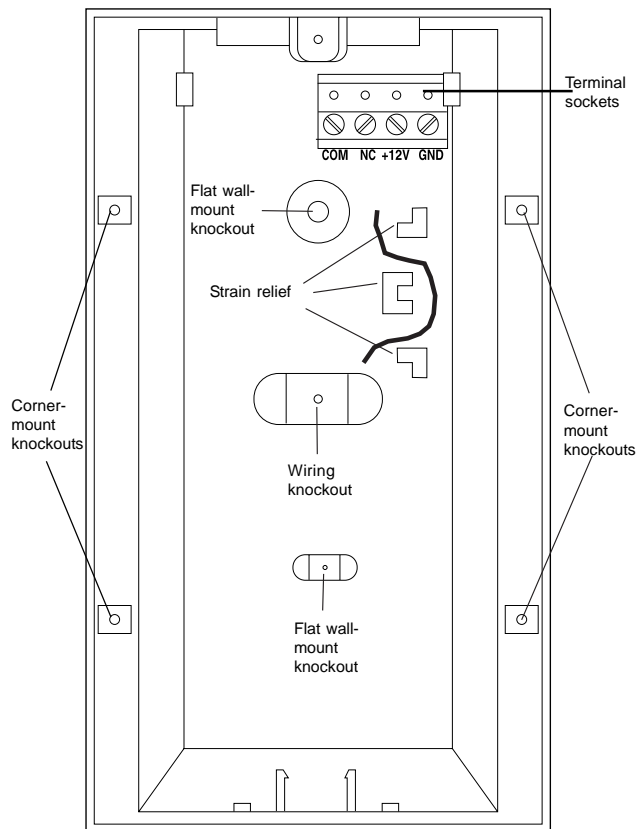

Figure 3. Sensor Base
4. Remove the appropriate wiring and mounting knockouts from the back cover. The sensor can be mounted on a flat wall or in a corner. See Figure 3.
7. Run each wire through the strain relief and under the appropriate screw terminals on the base and tighten the screws. See Figure 3.